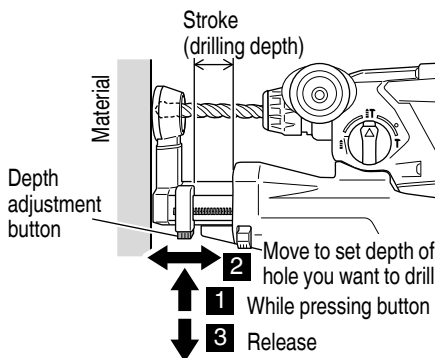

Fig. 8
3. Adjust the drilling depth (Fig. 8, 9)
Press the depth adjustment button in the direction of the arrow to release the lock, move the nozzle to set the stroke equal to the depth that you want to drill, and release the depth adjustment button to lock the position. (Fig. 8)